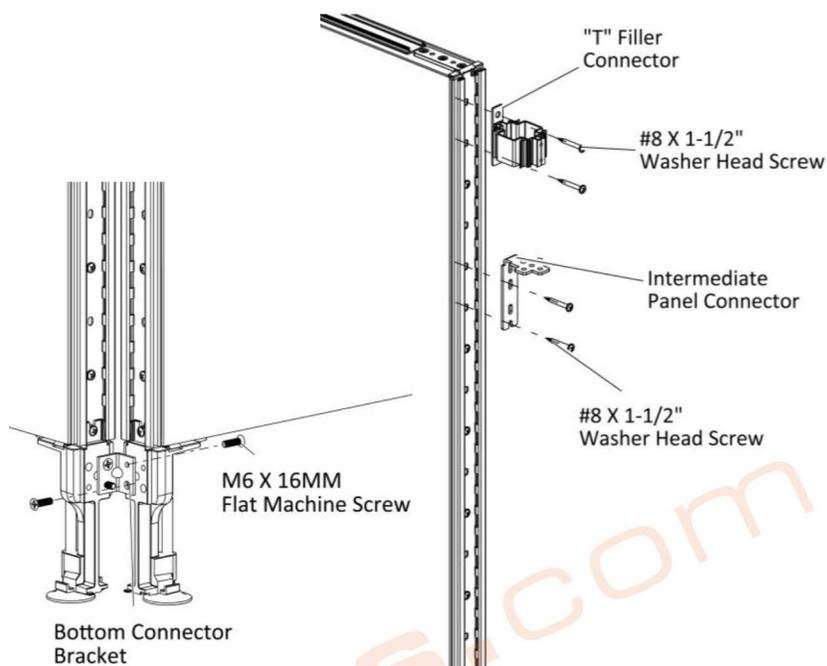

Figure 4
8. Securely fasten the base with two M6 X 16MM Flat Machine Screws, (Figure 4).